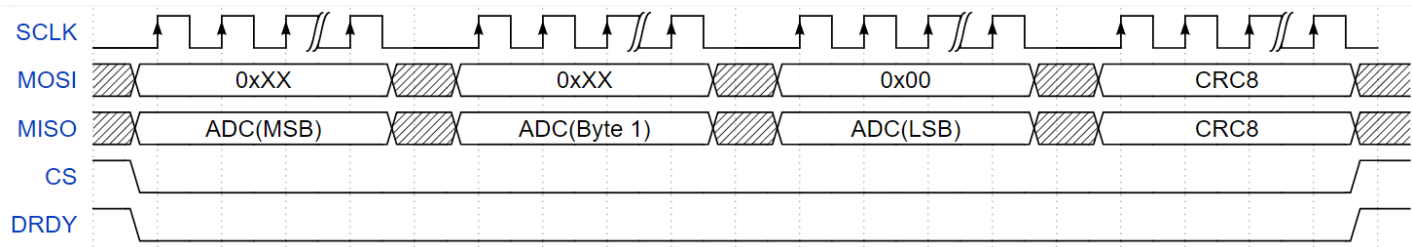

Figure 4.
- In Figure 4, each clock corresponds to 8 bits.